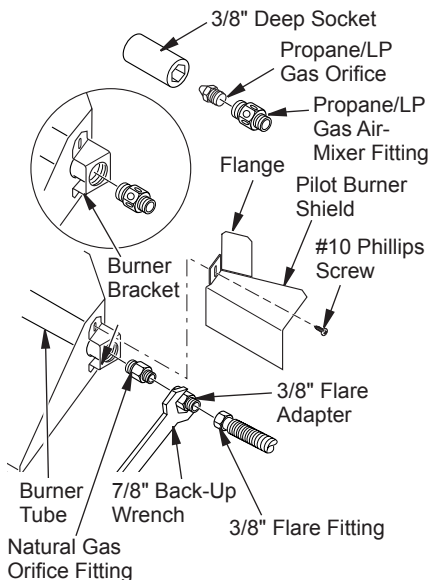

Figure 4 - Removing/Replacing Main Burner Orifice
1. Using a #10 short Phillips screwdriver, remove top mounting screw holding pilot burner shield in place (see Figure 4).
2. With orifice mount exposed, use a 7/8" open-end back-up wrench on 3/8" flare adapter and remove 3/8" flare fitting at the end of 3/8" flare adapter. This will prevent spinning and damage to the flexible tube (see Figure 4).
5. Thread the propane/LP gas orifice into the propane/LP gas air-mixer fitting using a 3/8" deep socket driver. *Note:* LP gas air-mixer fitting has six (6) holes. The natural gas fitting has no holes.